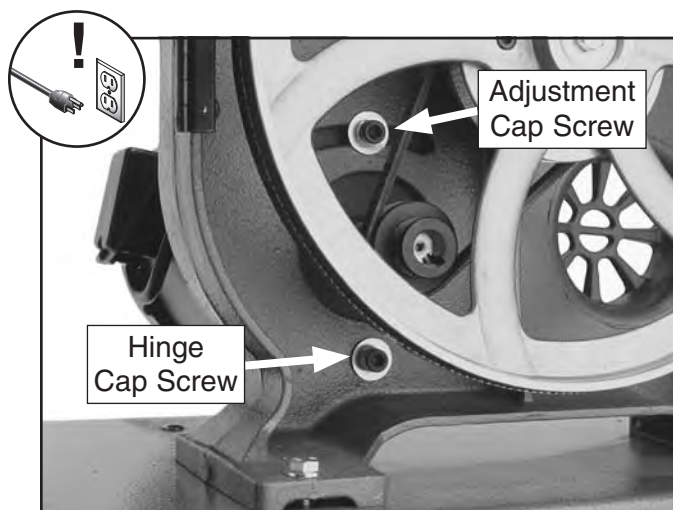

Figure 44. Locations of the motor adjustment and hinge cap screws.
2. Open the lower wheel cover and loosen the motor mount adjustment and hinge cap screws shown in **Figure 44**.